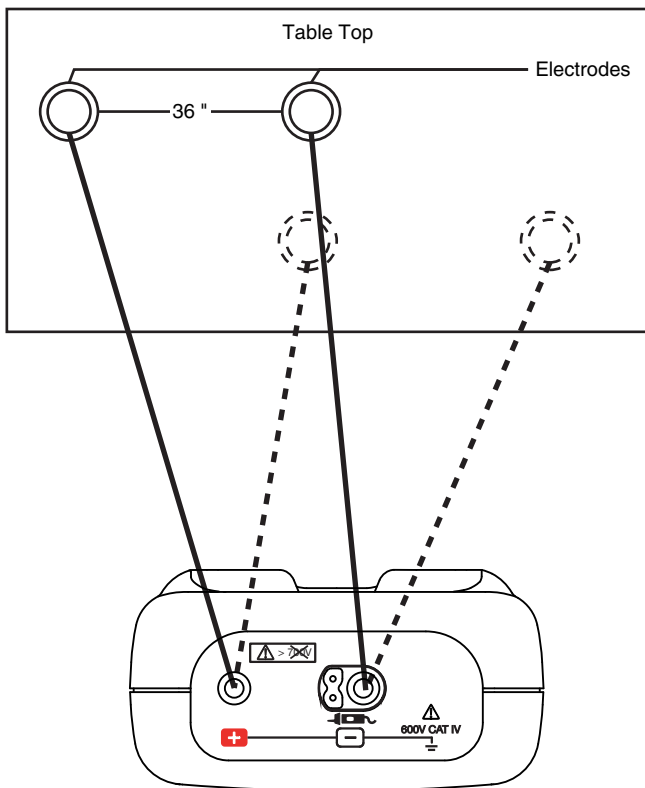

Figure 5
3. Unless otherwise specified, make five measurements on each floor section with the weights at different locations for each measurement, and record the value to two significant figures (see Figure 5 below).
- Resistance from electrode to electrode (Figure 5): Measured value: $\geq 1\text{M}\Omega$